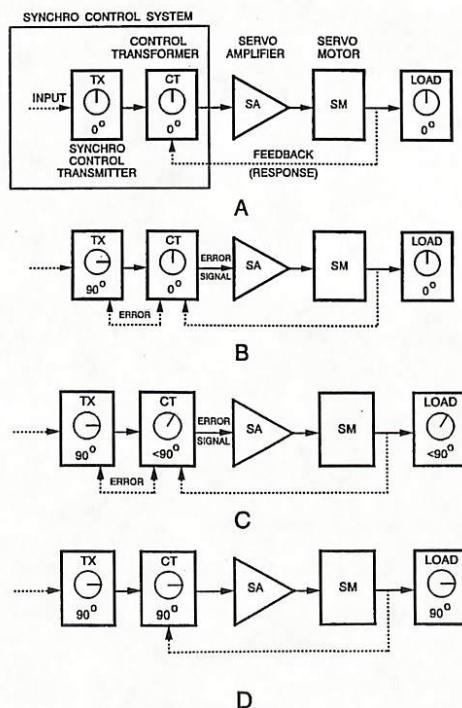

Figure 26. A Closed-Loop Servo System
**Operation.** The servosystem shown in Figure 26 is the most common type today.